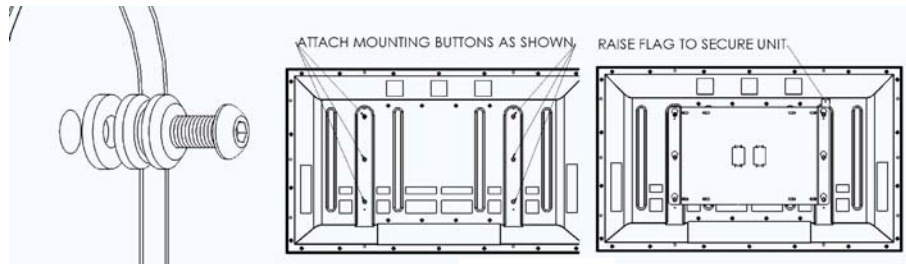

Figure 2
1. Place 1 nylon washers under each mounting button and place on mounting holes and attach using the M5-.8 x 25 mm BHCS, 6 places (see Figure 2).